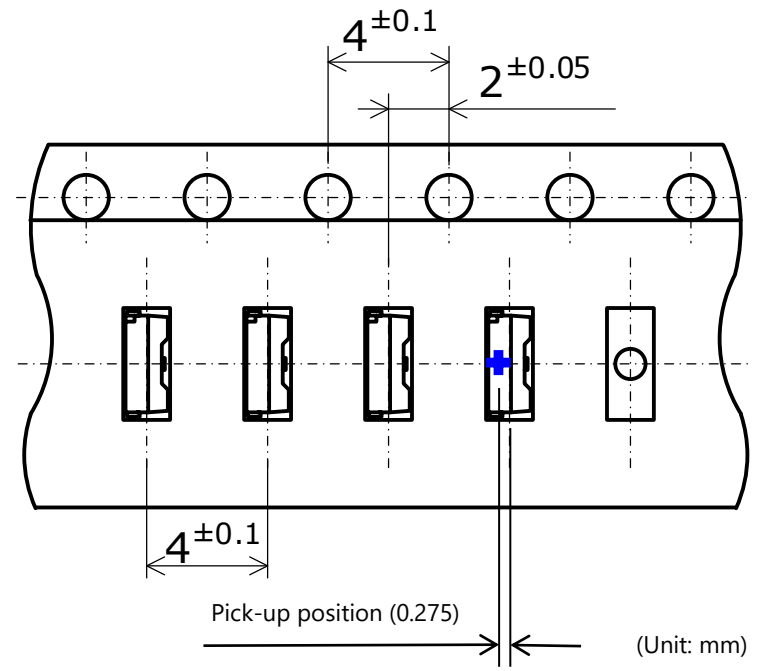

Figure 4. LED Pick-up Position in the Embossed Carrier Tape Pocket
3. Figure 4 shows the pick-up position for the LEDs in the embossed carrier tape pocket.